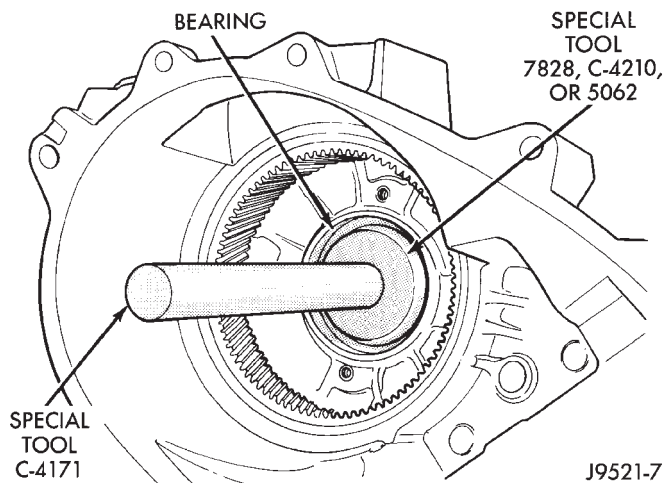
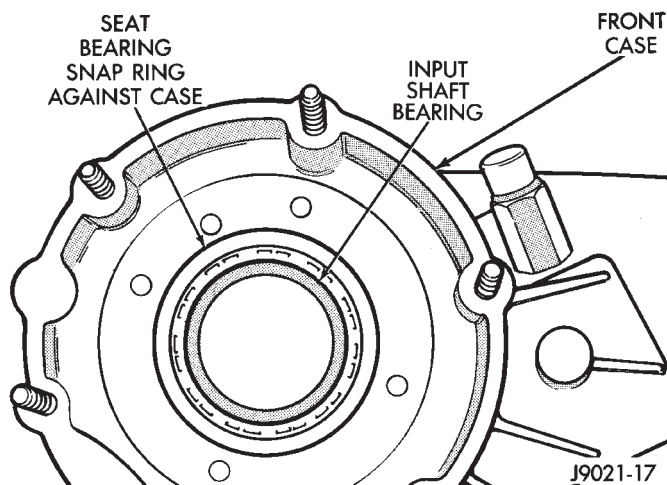

Fig. 34 Input Gear Bearing Removal
Fig. 35 Input Gear Bearing Installation
(8) Remove input gear bearing from front case with Tool Handle C-4171 and Tool C-4210, 7828, or 5062. Use tool that is best fit in bearing (Fig. 34).
(9) Turn front case over.
(10) Start bearing in case by hand. Then seat bearing with Tools C-4171 and C-4210, or 7828 until snap ring seats against case surface (Fig. 35).